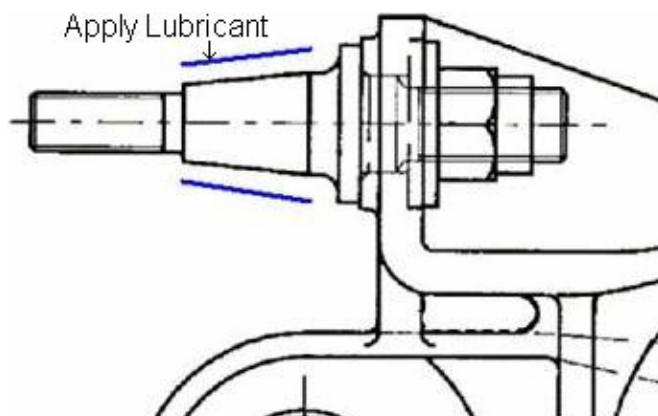

Figure 15.1: Application of Molykote Lubricant to Tapered Part of Spigots on Axlebox
- 15.3 Coat the tapered part of the spigot body, excluding the threads, with Molykote D321R lubricant (Cat No. 027/004058) and allow to dry for five minutes (see Figure 15.1).